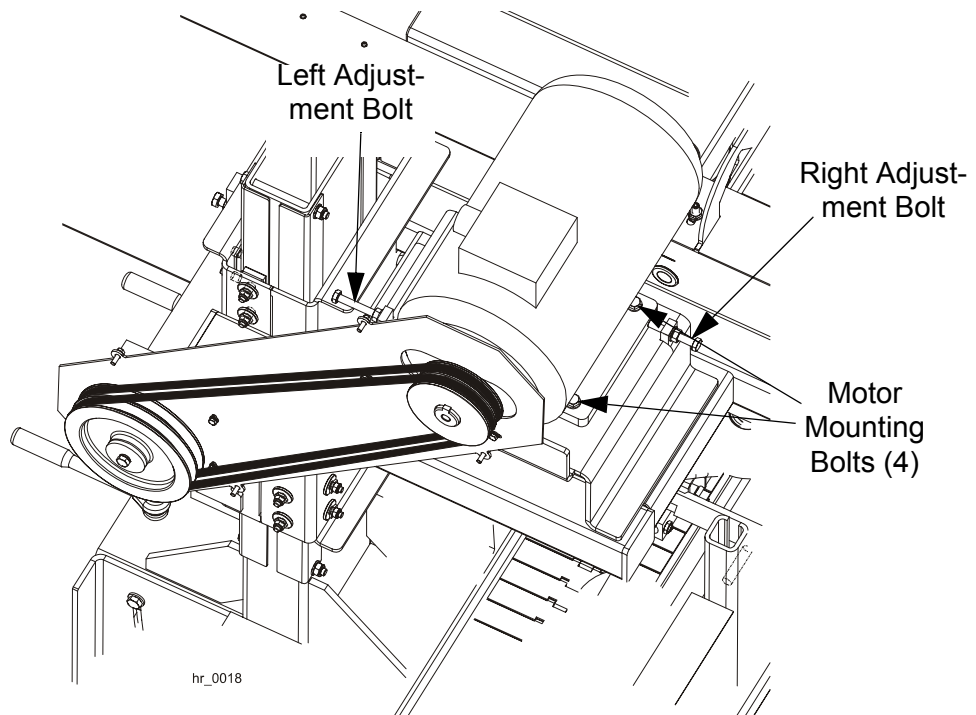

FIG. 3-3
2. Loosen the four motor mounting bolts (see Figure 3-3).
3. Loosen one of the adjustment bolts, shown in Figure 3-3, and turn the other until the belt has proper deflection. (To increase the belt tension, you must loosen the right bolt and turn appropriately the left one.) **NOTE:** Be sure to adjust the bolts evenly so the motor remains in alignment.